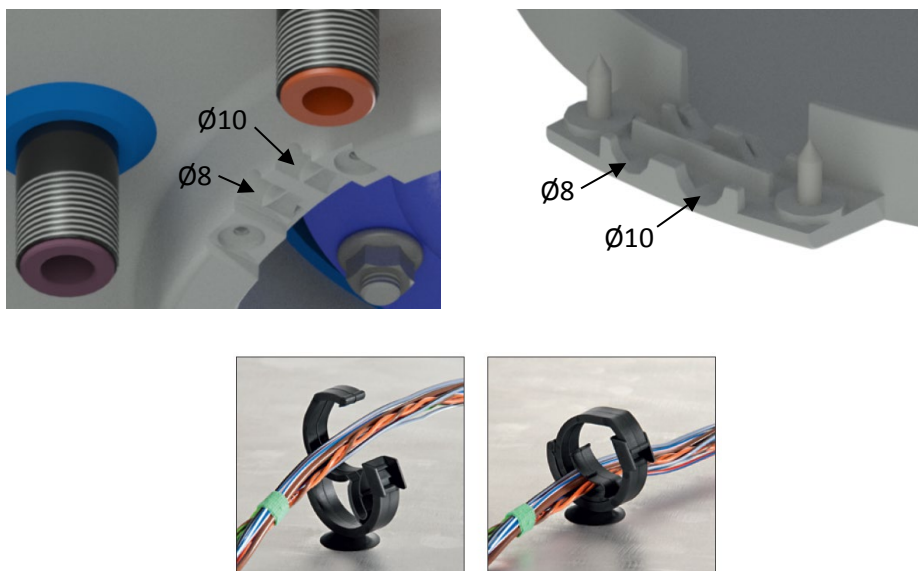
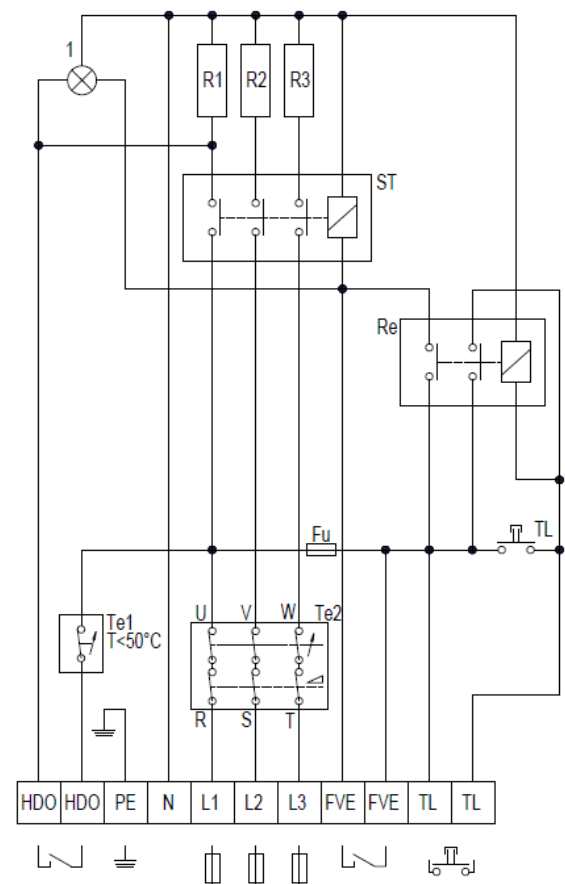

Figure 7
Figure 8
Execute the connection as indicated in the wiring diagram. Factory connection must not be changed! (Figure 8). In the electric wiring cabinet remove the partition corresponding with the input wire diameter of $\varnothing 8$ or $\varnothing 10$ (Figure 7). The degree of protection of electric parts of the heater is IP 44. Power input of electric element is 3x2000 W. Use pre-installed brackets to hold the lead cable.
- The wiring diagram is also attached to the heater on the side of the electrical installation guard (Figure 8).